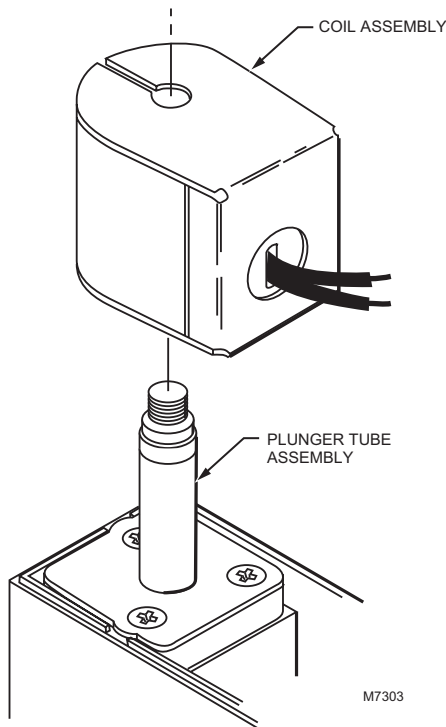

Fig. 14. Coil assembly fits on plunger tube assembly.
6. Lift the coil assembly straight up and off the plunger tube assembly (Fig. 14).
13. Slip the new coil assembly over the plunger tube assembly (Fig. 14).